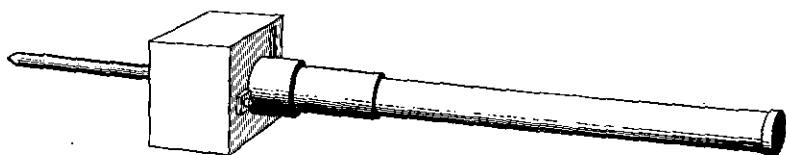

Figure 90.—70-mm barrage mortar, showing spike and block used as balance.
- (1) The wooden block base (fig. 90).
- (2) The spike extension rod.